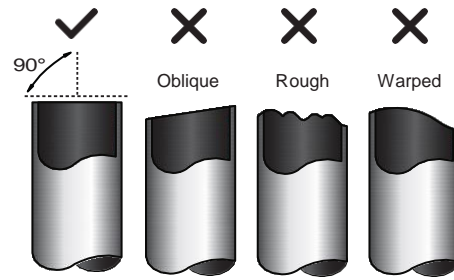

Fig. 7.5
1. Make sure that the pipe is cut at a perfect 90° angle. Refer to Fig. 7.5 for examples of bad cuts.